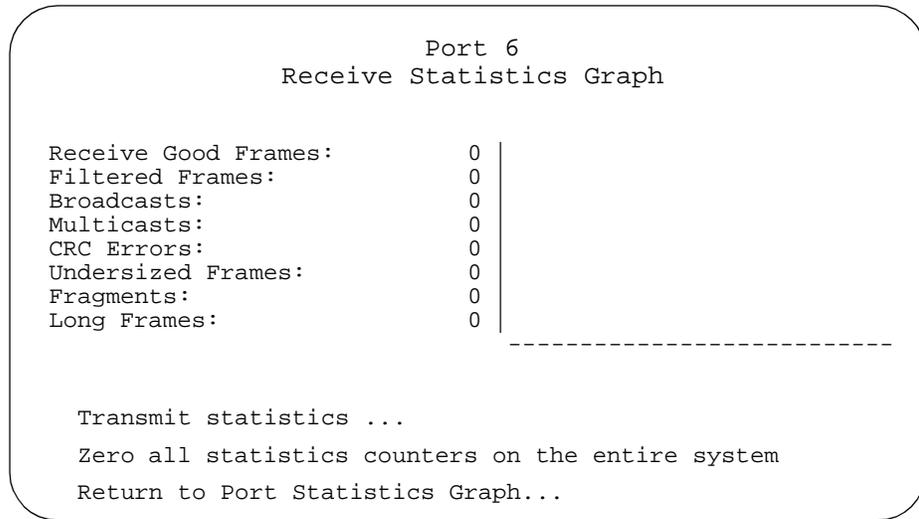

Figure 52 Graph of a Port's Received Frames
- a. Select *Individual port overview* and then a port. The frames statistics for the selected port display. Figure 52 is an example of the window.